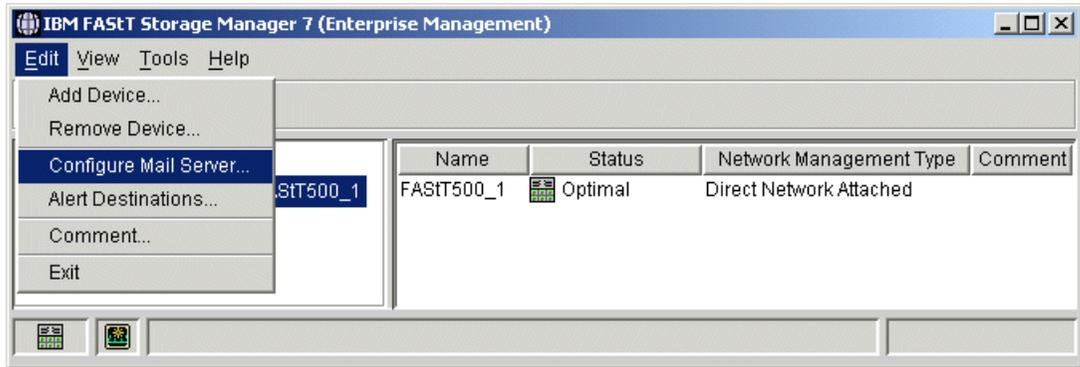

Figure 6-1 Enterprise Management window
1. In the Enterprise Management window menu, select **Edit->Configure Mail Server...** (see Figure 6-1):